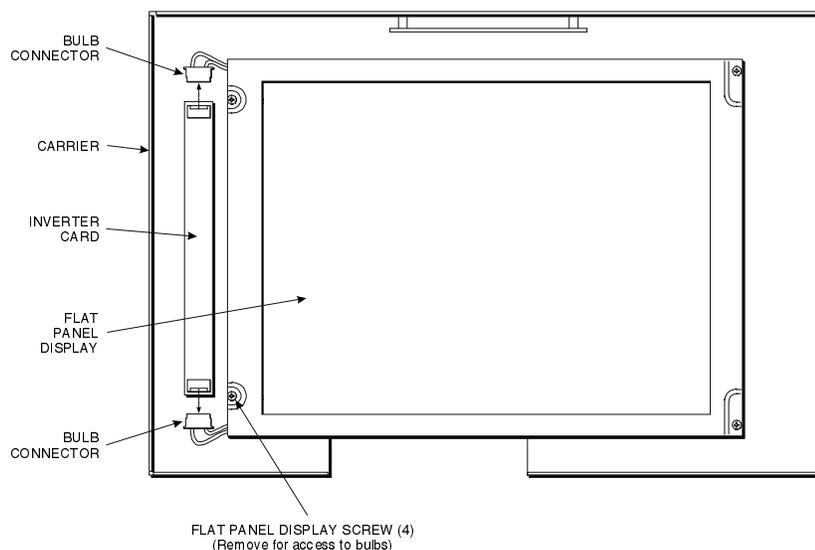

Figure D-1. Model LQ14X03/LQ15X01W - Front View
7. Referring to Figure D-1, use a small Phillips-head screwdriver to remove the four flat panel display screws.
- Referring to Figure D-1, use a small Phillips-head screwdriver to remove the four flat panel display screws.